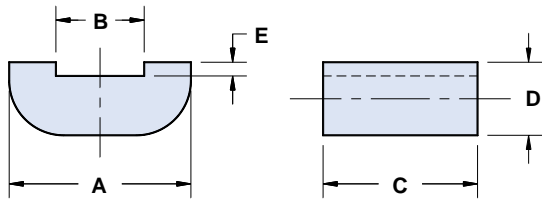

Figure 1
- Impedance values for parts shown in Figures 1, 2, and 3 are for a core set. Parts shown in Figures 1, 2, and 3 are sold as pieces.